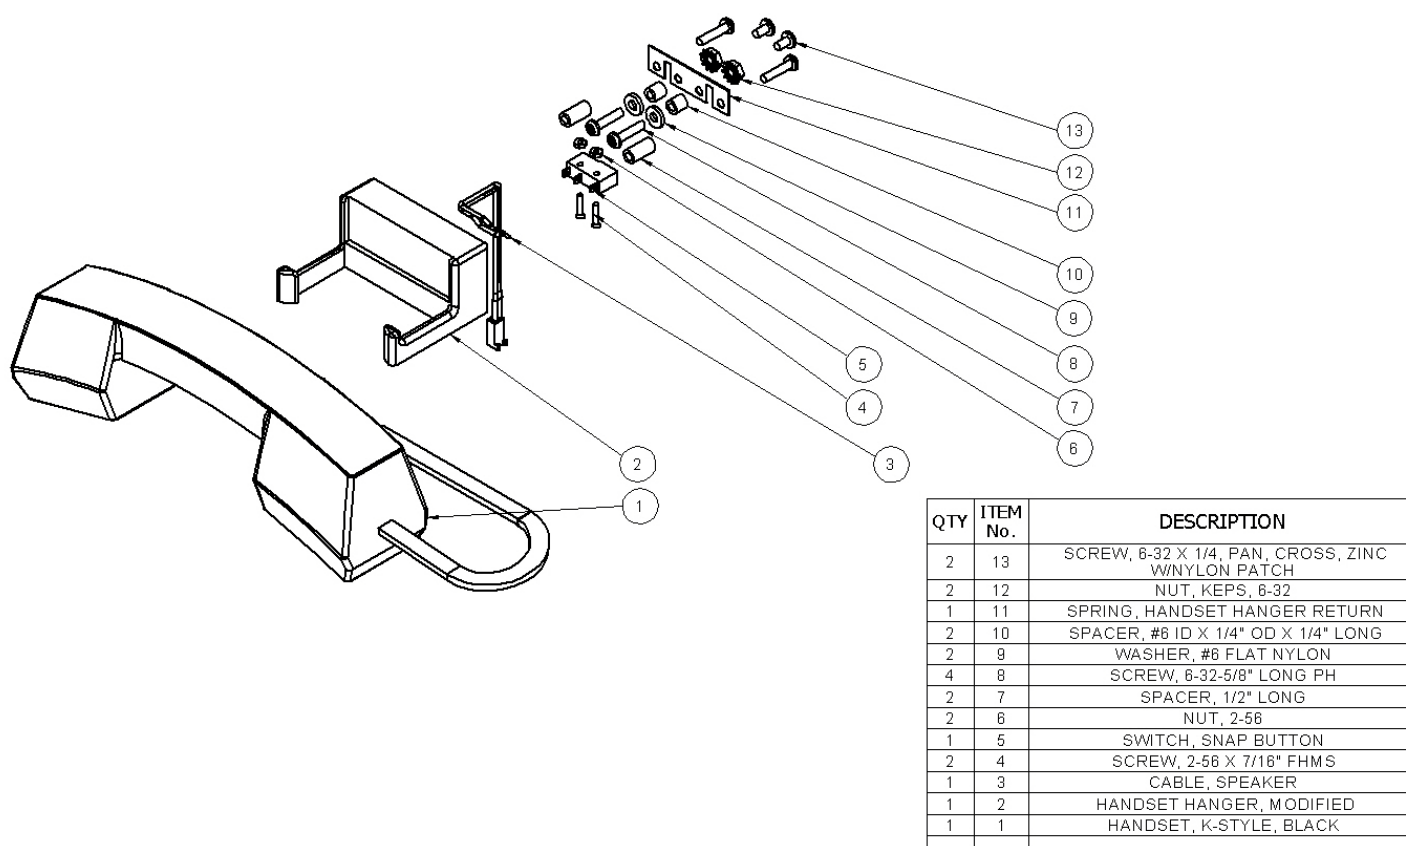

FIGURE 2. Option Kit Parts
4. Lay out the **Option Kit** parts and compare with the **assembly list** to determine if all of the parts are present. See Figure 2.